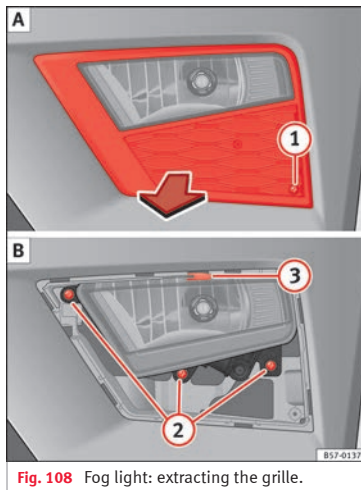
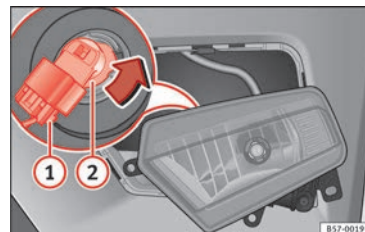

Fig. 108 Fog light: extracting the grille.
Fig. 109 Fog light: remove the bulb holder
1. Remove the screw » Fig. 108 ① A from the fog light grille using a screwdriver and extract the grille.
2. Remove the 3 screws » Fig. 108 ② B.
3. Remove the metal clip situated on the upper part of the fog light by pulling away from the vehicle ③ B and take the fog light out.
4. Remove connector » Fig. 109 ① from the bulb.
5. Turn the bulb holder » Fig. 109 ② anticlockwise and pull.